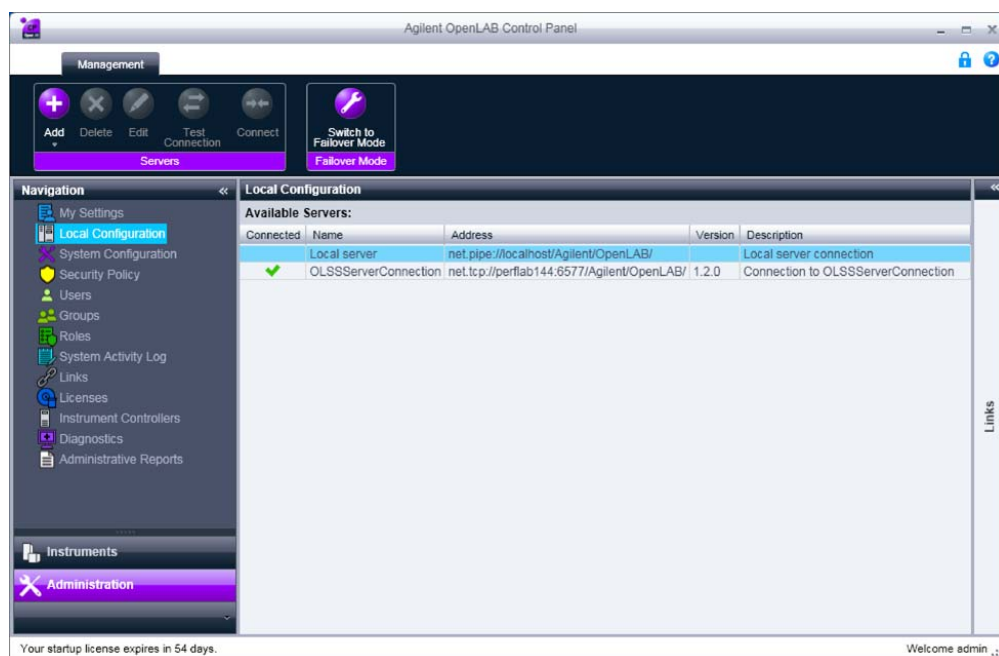

Figure 2 Switch to local OpenLAB Shared Services instance
- 1 On the local OpenLAB Control Panel open the **Administration** page (see Figure 2 on page 7) and select the **Local Configuration** node in the **Navigation** pane.
- 1 In OpenLAB Control Panel go to the **Administration** page and navigate to the **Local Configuration** node (see Figure 2 on page 7).